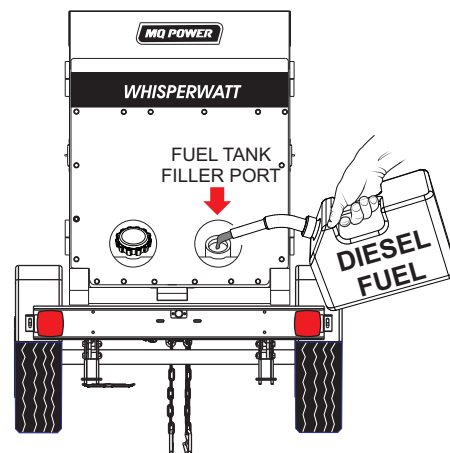

Figure 35. Fueling The Generator
2. Remove the fuel cap and fill the tank as shown in Figure 35.